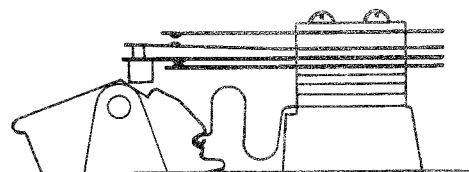

Figure 1 - Toggle Action
3. Note switch and toggle spring detail, Figure 1. Operate the switch several times and notice contact sequence. There are two sets of contacts, a single pole single throw (SPST) normally open switch on the top of the stack and a SPST normally closed set on the bottom. (In Model 214 the lower set is not used.)